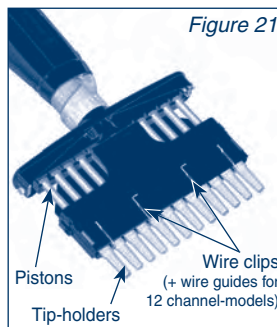

Figure 21
- Remove the wire clips (+ wire guides for 12 channels-models) from the piston tray-cover (figure 21).